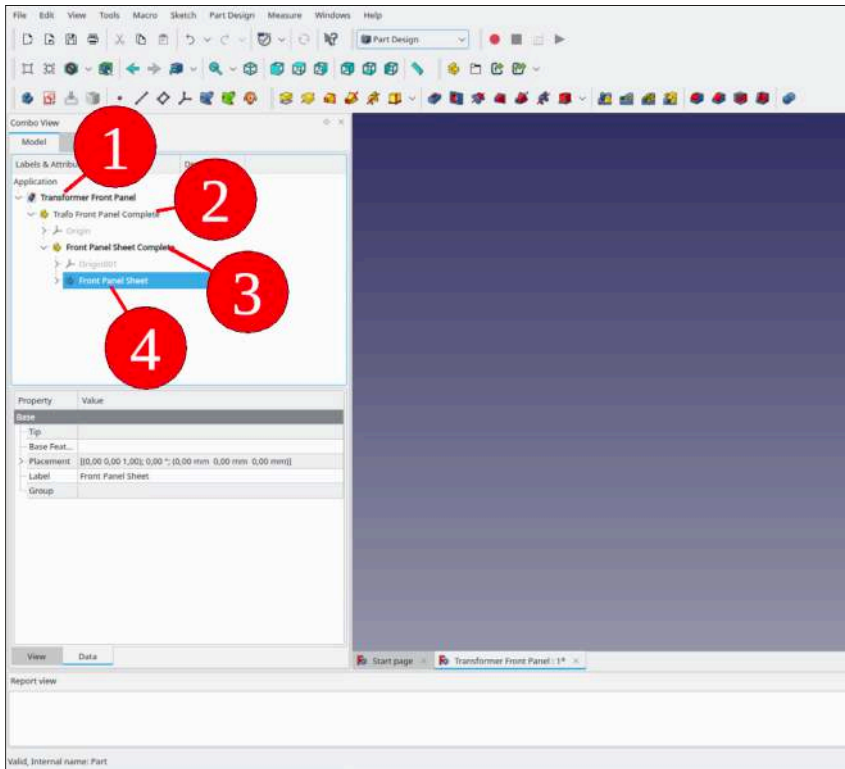

Figure 9-1
3. Save the result, which is illustrated in Figure 9-1.